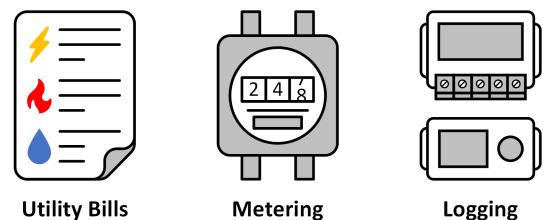

Figure 5: Common sources for collecting energy data.
For each energy resource identified in Step 1, you must collect data for the baseline and reporting years. Common resources for data collection are shown in Figure 5. Each resource must be converted to a common unit (usually MMBtu) using an appropriate conversion factor. Multipliers for non-energy resources (purchased compressed air, steam, chilled water, etc.) can be found in the full Energy Baselining Guidance [1]. The DOE's Energy Footprint (EF) tool can help organize your site energy data during this step.